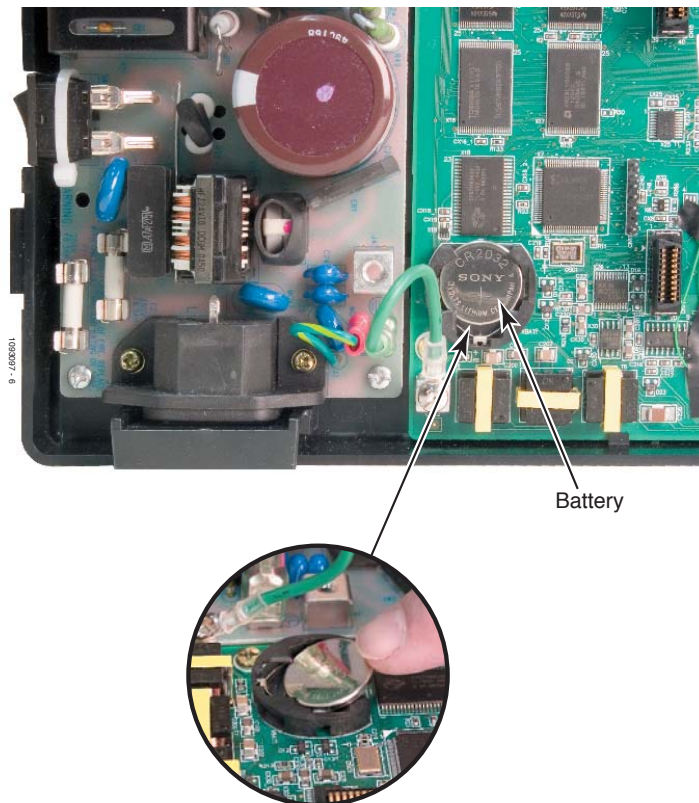

Figure 7: Installing the Battery
2. Following Figure 7, gently push down on the battery and remove it.
The power supply AC input fuses protect the system power supply from problems with the site's AC line. These problems can include improperly wired outlets and power surges. In normal operation, you should never need to replace the power supply AC input fuses. See the detail in *Figure 7: Installing the Battery* (page 26).